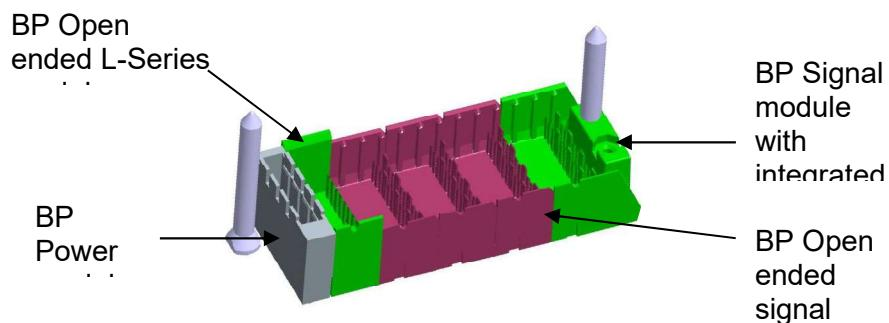

Figure 12: Typical Standard XCede Backplane Configuration
- 3.2.1 The backplane modules can be configured in various combinations and are end stackable, see Figure 12.